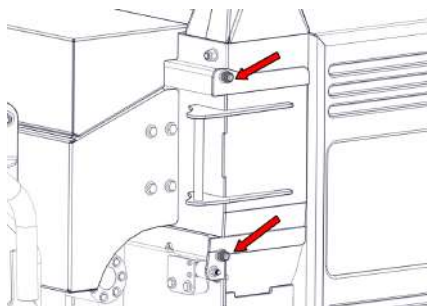

Figure 25 - Rotor Housing Access Hatch
3. Remove the two nuts and washers retaining the rotor housing blade access hatch and remove the hatch (Figure 25).